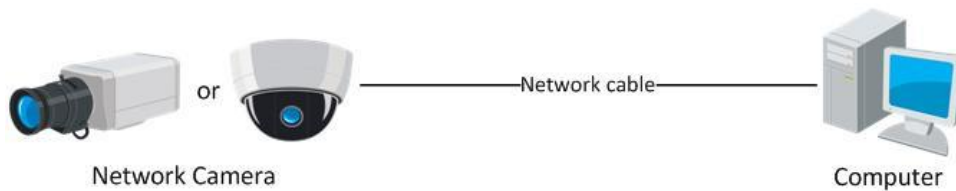

Figure 2-1 Direct Connection
- To test the network camera, you can connect the network camera directly to a computer with a network cable as shown in Figure 2-1 (external 12VDC power or PoE injector required).